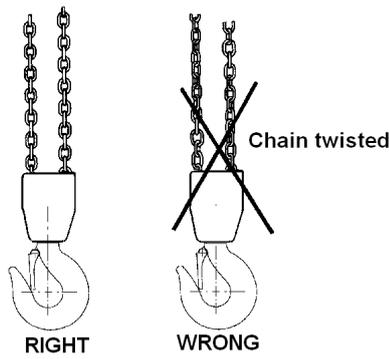

Fig. 3 The chain must not be twisted
- The load chain must not be kinked or twisted. With two-fall or multi-fall chain blocks there is a risk of the chain twisting if the bottom hook assembly ends up looped through the chain sling – usually during refitting or moving the chain block between work stations. See Fig 3.